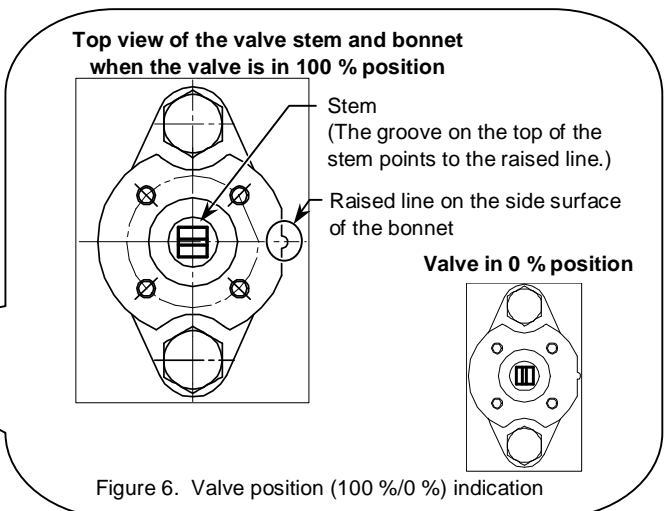

Figure 6. Valve position (100%/0%) indication
- 1) Make sure that the valve is in fully open (100 %) position. (The valve position is preset at 100 % before factory shipment.) As shown in Fig. 6, the valve is in fully open position when the groove on the valve stem (top surface) points to the raised line on the valve bonnet (side surface). To set the valve position to 100 %, turn the valve stem so that the groove points to the raised line, using a 10 mm wrench.